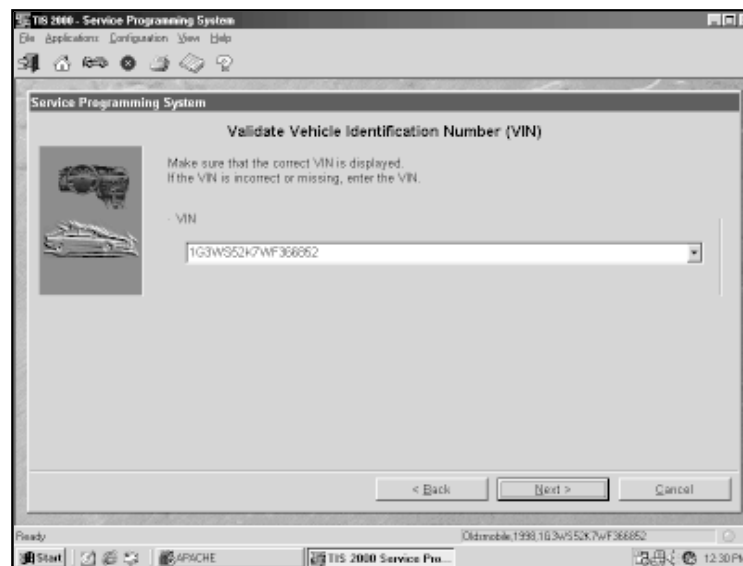

Figure I-7, Confirm VIN
- 2.7 A screen will appear asking to confirm the VIN (Figure I-7). After confirming/entering the correct VIN, select **Next**.